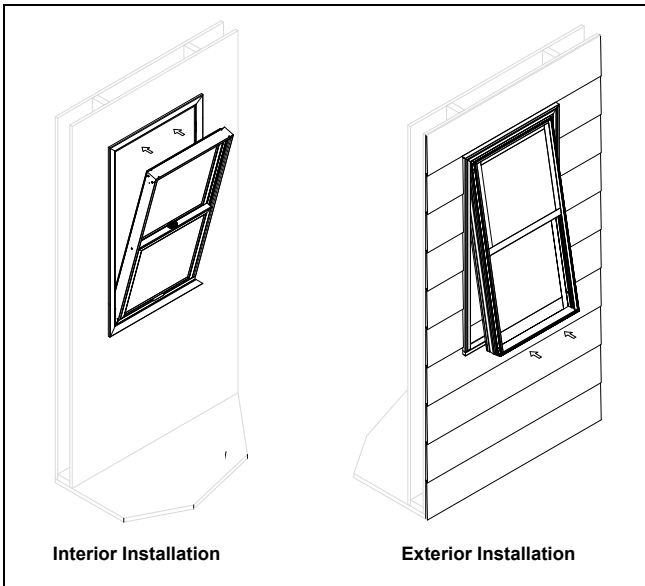

Figure 9
3. Center unit in opening. Depending on interior or exterior installation, press unit against interior sash stop or blind stop. See figure 9. It is recommended that Picture and Transom units be installed from the INTERIOR only.